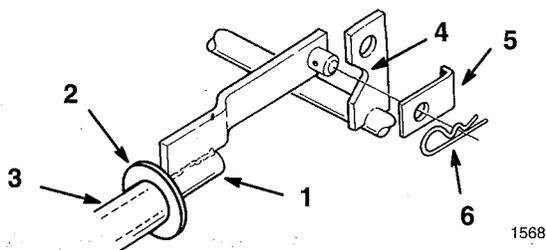

Figure 22
11. Remove hairpin cotter, clevis pin and retainer to disconnect lift rod from "V" notch in attachment lift (Fig. 22).
12. Remove lift rod (and optional spacer washers) from lift tube (Fig. 22).